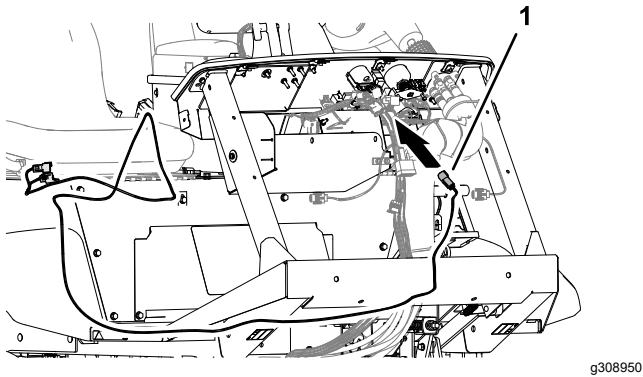

Figure 31
1. At the front of the machine, align the 4-pin connector of the ISO-CAN bus harness—302 cm (119 inches) labeled To ISOBUS toward the dash panel (Figure 31).